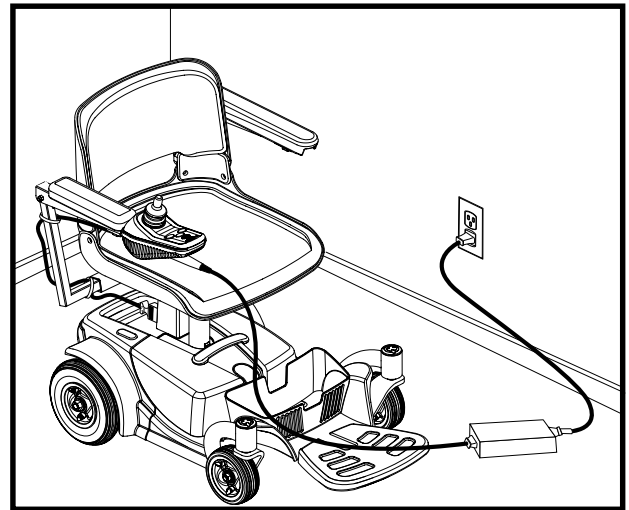

Figure 21. Battery Charging (Battery Box Installed)
1. Position your Go-Chair next to a standard wall outlet. See figure 21.
3. Plug the off-board charger into the off-board charger socket on the controller. See figure 21. Refer to VII. "Operation" for more information.
4. Plug the off-board charger into the wall outlet. See figure 21.